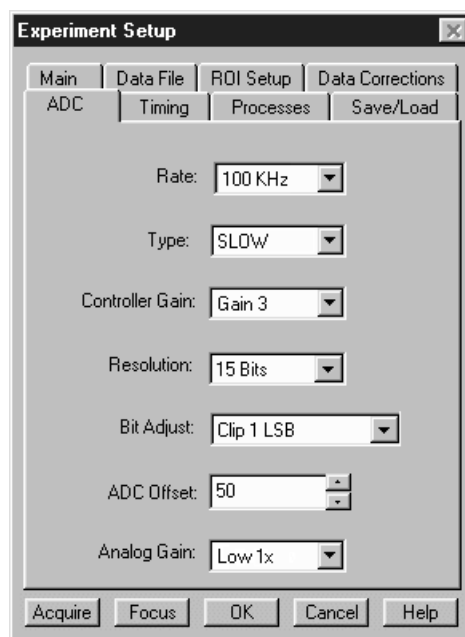

Figure 35. Generic ADC tab page
5. On the **ADC** tab page (Figure 35), set the parameters as they apply to your particular system. Parameters that might be listed, depending on the controller type, include: